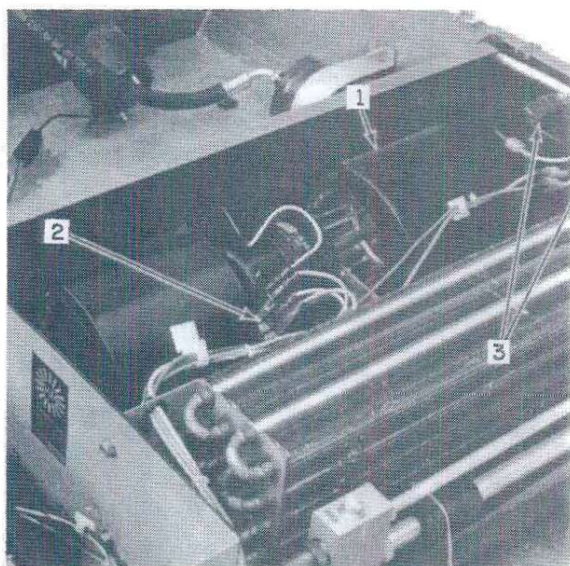

FIGURE 9-39
2. Remove the 4 attaching screws and lift the blower assembly from the air conditioning unit, Figure 9-39.